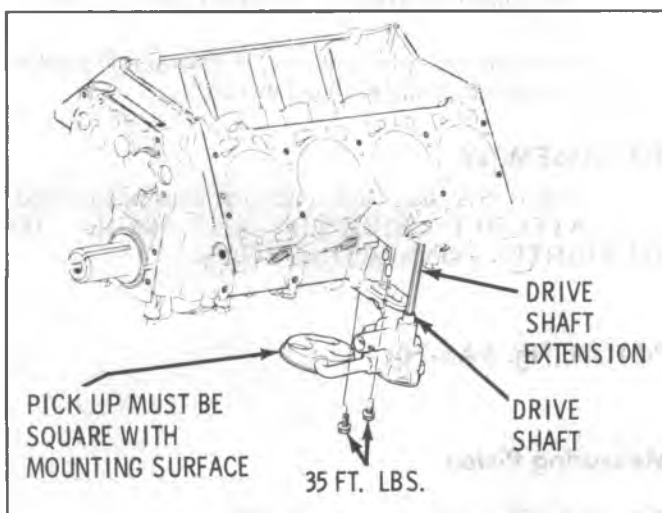

Fig. 6A6-65--Oil Pump Installation
2. Position pump onto the rear main bearing cap and install attaching bolts. Torque bolts to 35 lb. ft. (47 N·m) (Fig. 6A6-65).